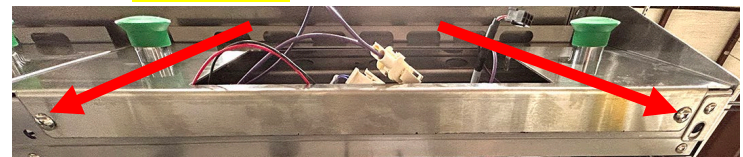

Figure 25
52. Remove the bezel by removing the two screws on the bottom of the bezel (see Figure 25).